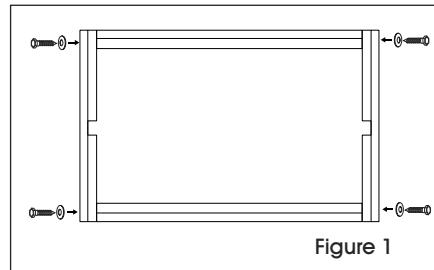
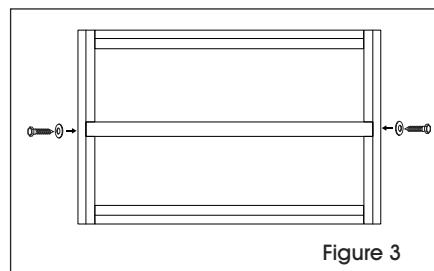

Figure 1
Figure 3
2. Assemble the two tire stop pieces and the two side assembly pieces using two lag screws and two washers. (See Figure 1)
3. Place the grid assembly upright in the rectangle base assembled in Figure 1. Ensure the grid assembly is positioned with the extended part of the end post pointing up. Attach with two lag screws and two washers in each of the places indicated. (See Figure 3)